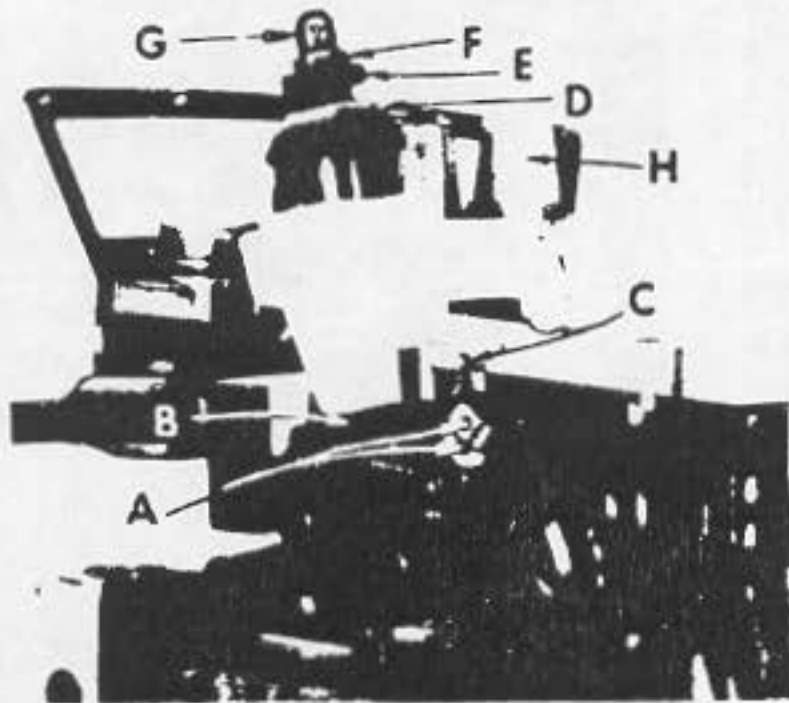
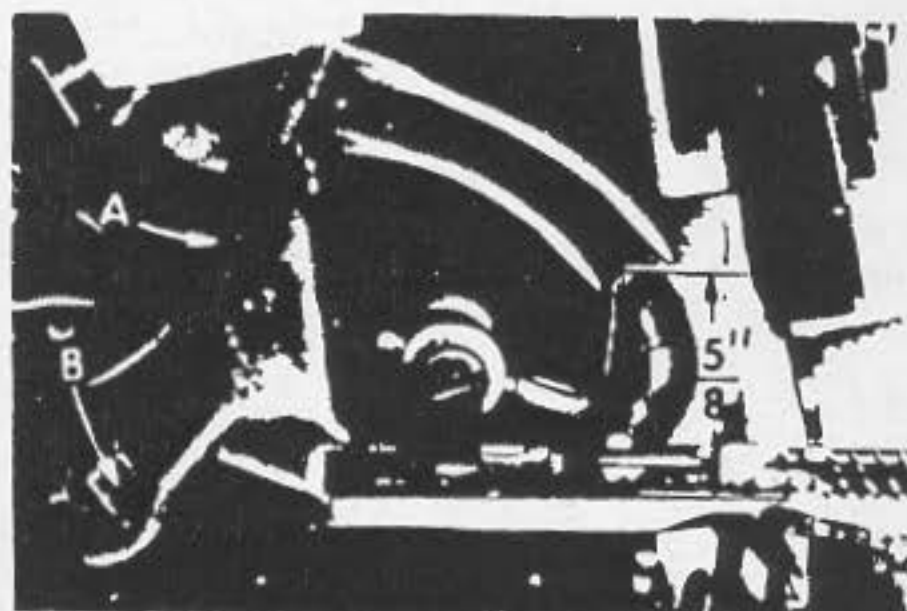

Fig. 2
Fig. 3
Sufficient pressure to feed work uniformly should be maintained. Should it be necessary to increase or decrease amount of pressure on presser foot loosen lock nut (D, Fig. 2) and turn the adjusting screw (E). Adjusting screw has a right hand thread so tightening increases the pressure, loosening decreases pressure. When pressure adjusting screw (E) has been properly set, tighten lock nut (D). With presser foot resting on the throat plate, position locking nut (F) so that its under surface is approximately 1/32 inch to 1/16 inch from the top surface of adjusting screw (E). Set the cap (G) against the locking nut (F).
Release the pressure on presser arm and swing arm out of position. Insert both needles (Type 161 GS for the 401 stitch and Type 154 GAS for the overedge stitch) into the left and right holes, respectively, of the needle driving arm (A, Fig. 3), so that the butt ends contact the needle driving arm thread eyelet (C, Fig. 2). Secure needles in this position with clamp screws (A, Fig. 2).
With the throat plate assembled in position, the needles should center in the throat plate needle holes. To align the needles, loosen clamp screw (B, Fig. 3) and reposition the needle driving arm to the right or left as required. The height of the needle driving arm is correct when the point of the left needle is $\frac{5}{8}$ inch above the throat plate (Fig. 3) when at the top of its stroke. Tighten clamp screw (B) after correct height has been obtained and needles have been centered in the throat plate needle holes. Remove throat plate